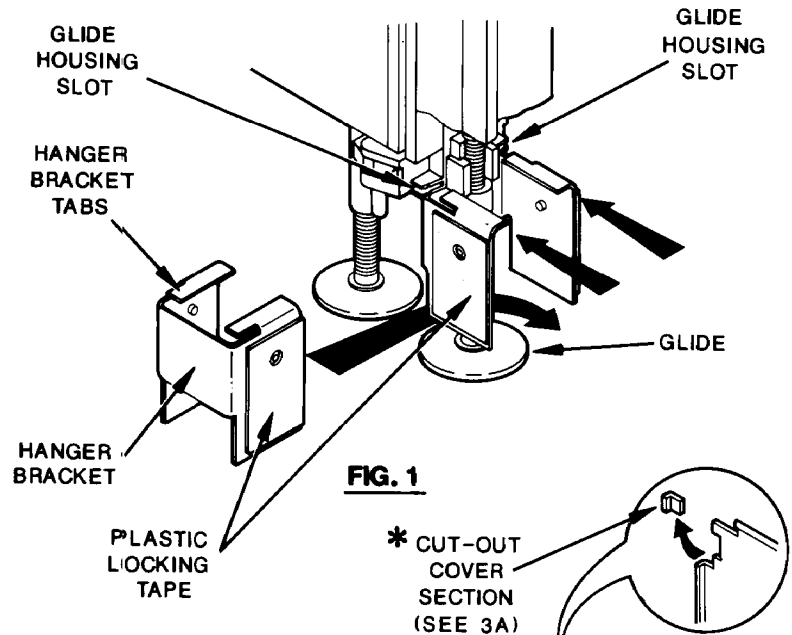

FIG. 1
2. Install new hanger bracket on glide housing starting from either side of glide housing. With the open part of hanger bracket facing glide housing (Fig. 1), go around glide and up until both tabs of hanger bracket engage both glide housing slots. Hanger bracket must be all the way forward in slots.